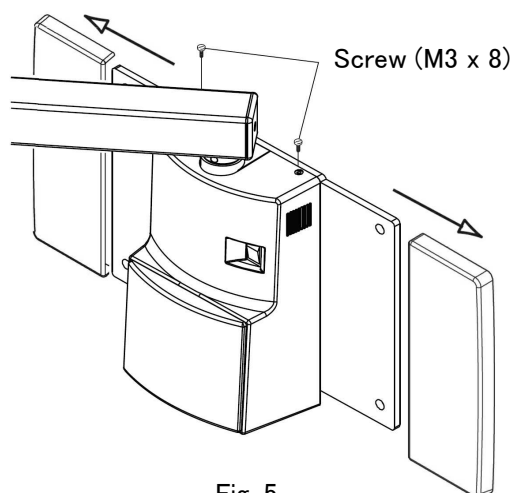

Fig. 5
1. Slide the side covers to right and left. (Fig. 5)
2. Remove the top two screws and open the front cover. (Fig. 5)